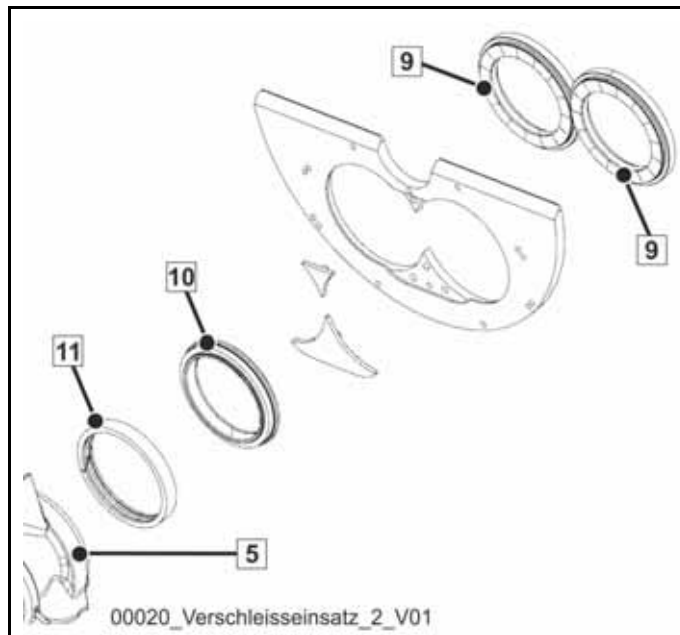

Fig. 316
A two-piece wearing insert (9) (Fig. 316) made of white cast iron with an appropriate support plate is available as special equipment.